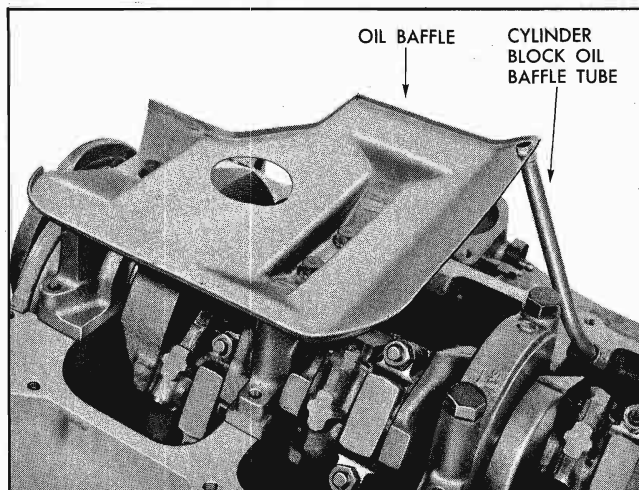

Fig. 6-85 Proper Assembly of Oil Baffle and Tube
20. Position cylinder block to oil baffle tube and engine oil baffle on engine, install attaching bolts with lock washers and tighten securely (Fig. 6-85).